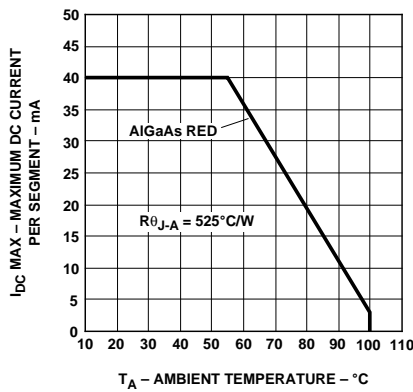

Figure 2. Maximum Allowable DC Current vs. Ambient Temperature.
1. See Figure 2 to establish pulsed conditions.